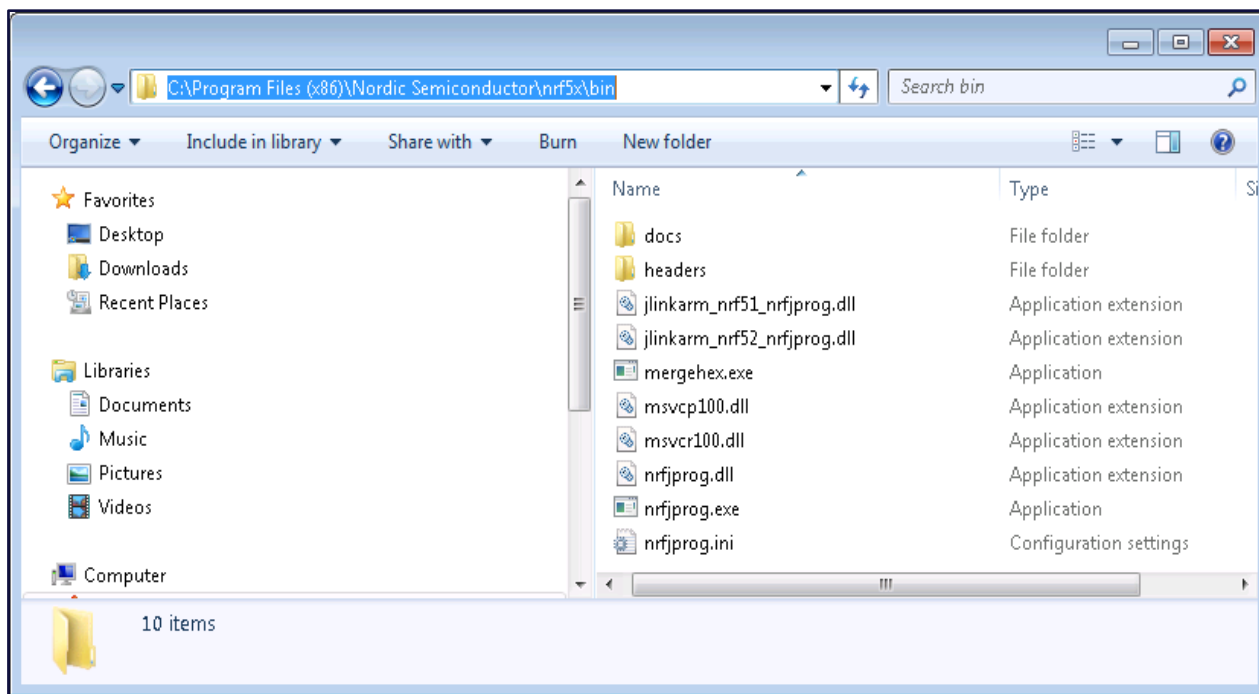

Figure 2: nrfjprog executable location
5. Once downloaded, the **nrfjprog** executable can be found at **C:\Program Files (x86)\Nordic Semiconductor\nrf5x\bin** (Figure 2).